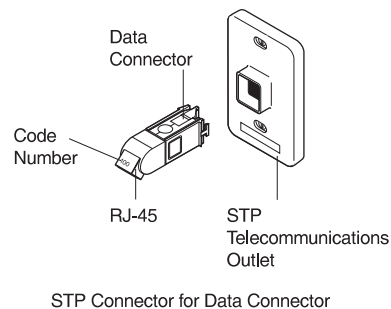

Figure 2. Connector for STP outlet
- If your network uses STP cabling with an STP telecommunications outlet, as shown in Figure 2, perform the following procedure: